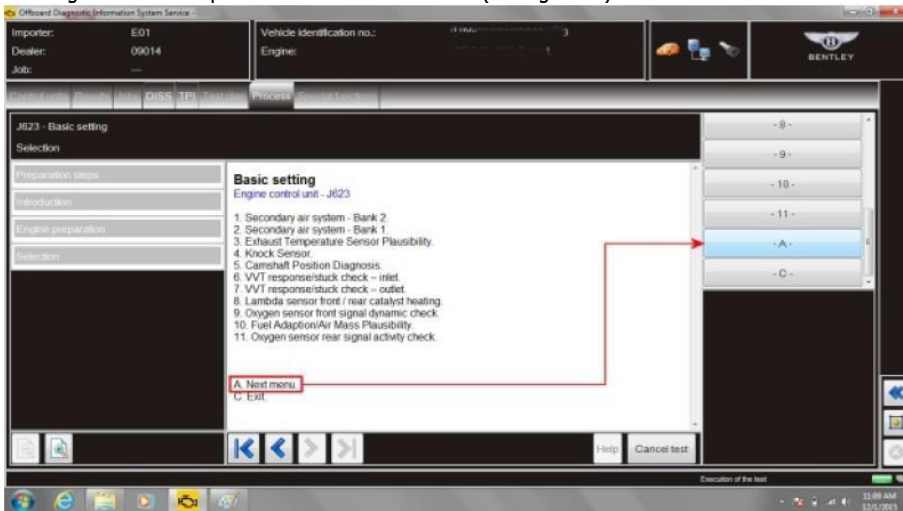

Figure 18
5. Within Basic settings select A Next menu. (see Figure 18)